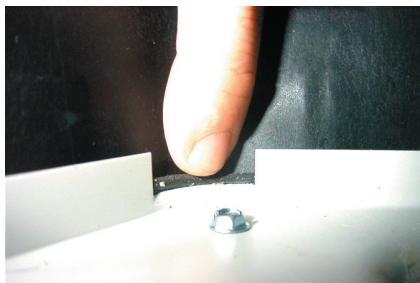

Figure 8 - Foam Gasket
1. The closed cell foam gasket must seal the hex shaped pan to the inside of the plastic housing (see Figure 8). The seal is to be completely even in the corners of joined parts.